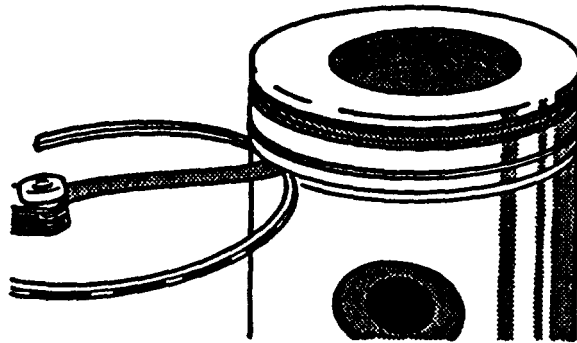

FIGURE 3-129. Checking Piston Ring Groove Clearance
- m. Check top ring groove using a new piston ring and feeler gage, refer to FIGURE 3-129. Ring groove clearance must not exceed 0.008 inch (0.20 mm) when measured between top of ring and ring land. If ring groove is worn, replace piston and liner as a matched set. If ring groove is good, proceed to next step.